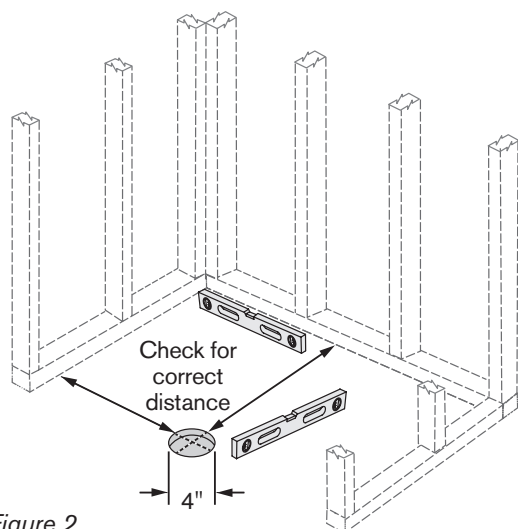

Figure 2
- 1 Check shower pocket area for level and for correct dimensions. Make sure drain hole in floor is the correct distance from studs and 4" diameter (or 4" x 4" square). The floor must be within 1/8" of level, especially around drain box-out. (Figure 2)